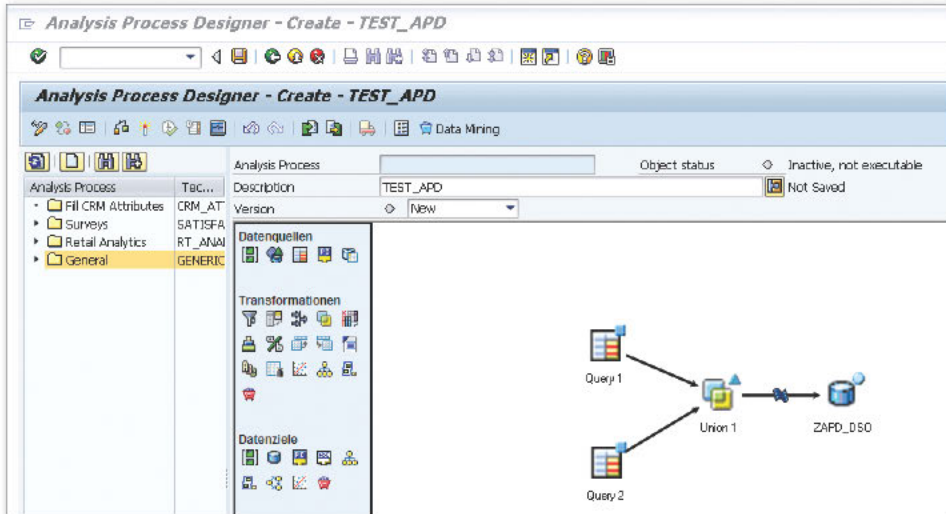

Figure 4 Union of Two Queries
4. Merge the two queries by selecting UNION OPERATOR from the TRANSFORMATIONS option as shown in Figure 4. Use your mouse to click on the query, and then you can extend the arrow line to the UNION operator.